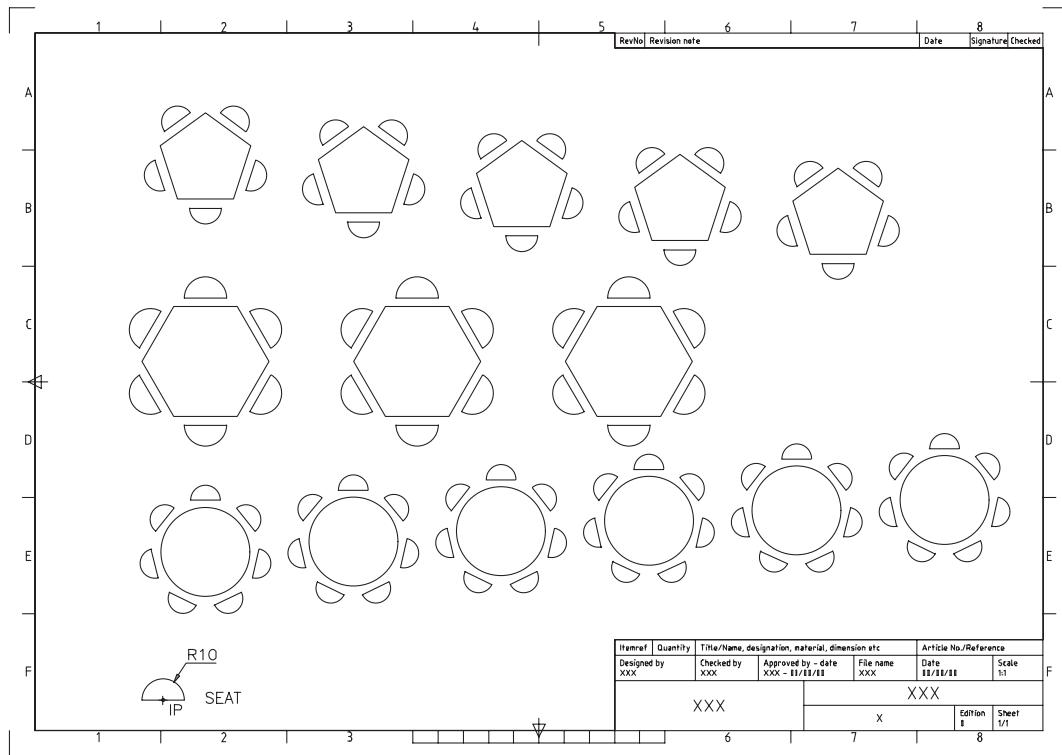

Figure 28.3 Block exercise.
- 2 Refer to Figure 28.3 and draw the SEAT shape as given. Do not add the dimension or donut.
respond **midpoint icon and pick line indicated by donut in Figure 28.3**
- 14 The final layout should be as Figure 28.3 and can be saved with a suitable name.